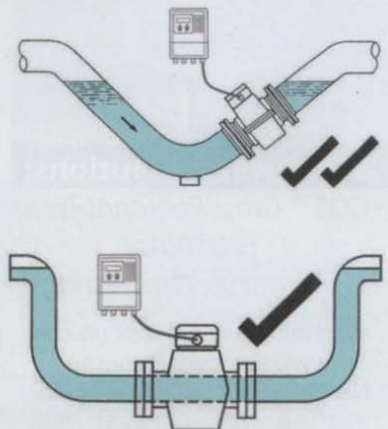

Figure 2: Pipe must be full at all times.
- Install the flowmeter sensor in a section of pipe that is full at all times (as shown in Figure 2).